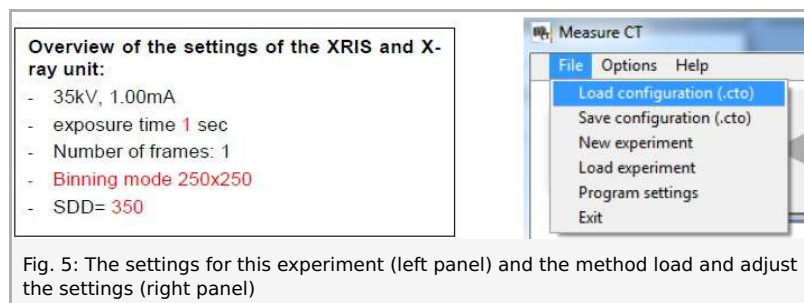
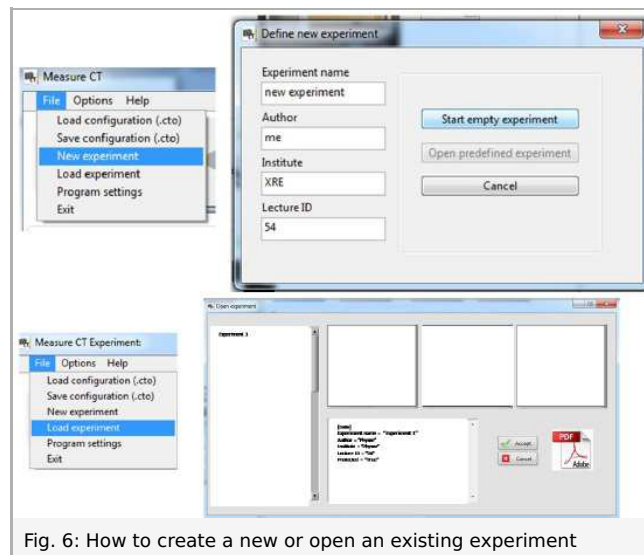

Fig. 5: The settings for this experiment (left panel) and the method load and adjust the settings (right panel)
Fig. 6: How to create a new or open an existing experiment
- Adjust the XRIS settings and X-ray unit settings according to Fig. 5 or load the configuration from the predefined CTO file 'Experiment 4' (see Fig. 6).
- Start a new experiment, give it a unique name and fill in your details (Fig. 6). Alternatively it is also possible to load this experiment with pre-recorded images and open this manual. The correct configuration will be loaded automatically as well but the functionalities of the software will be limited to avoid overwriting the existing data.